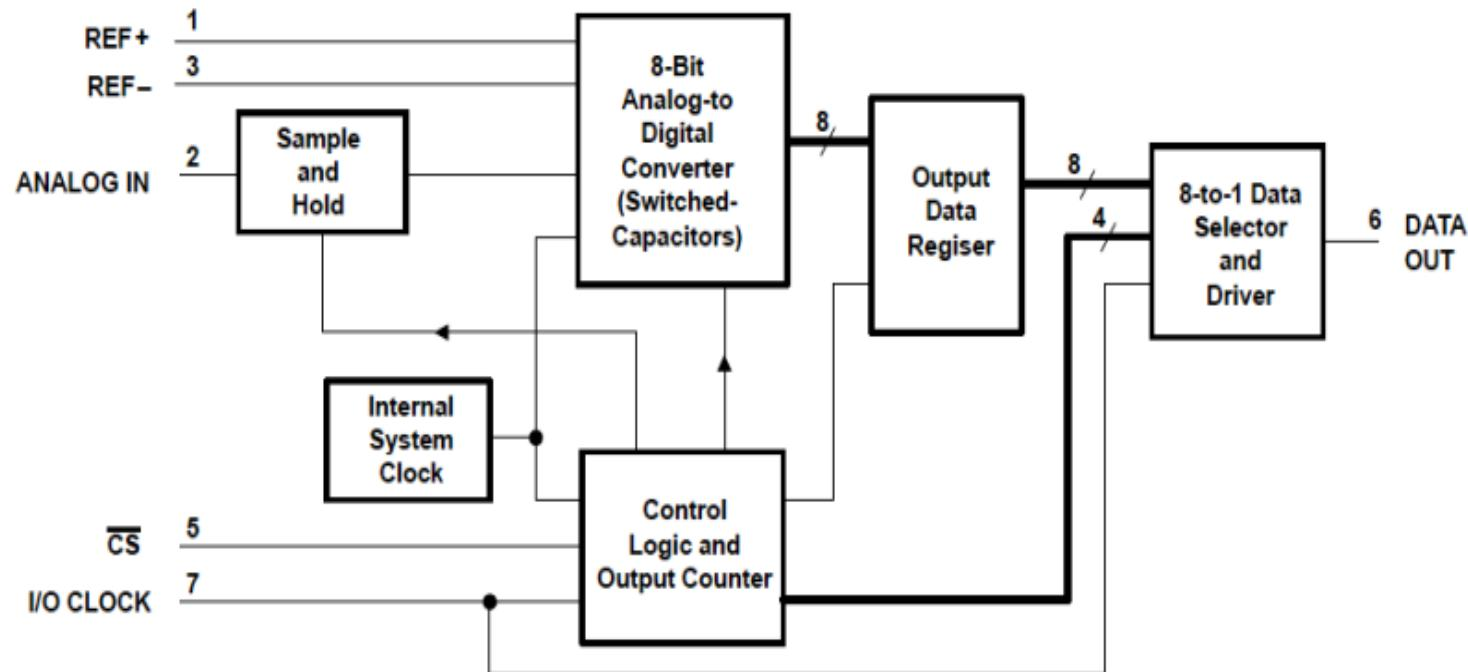

Figure 8.37 Functional block diagram of the ADC- TLC548.
- Figure 8.37 shows the functional block diagram of the **ADC- TLC548**.